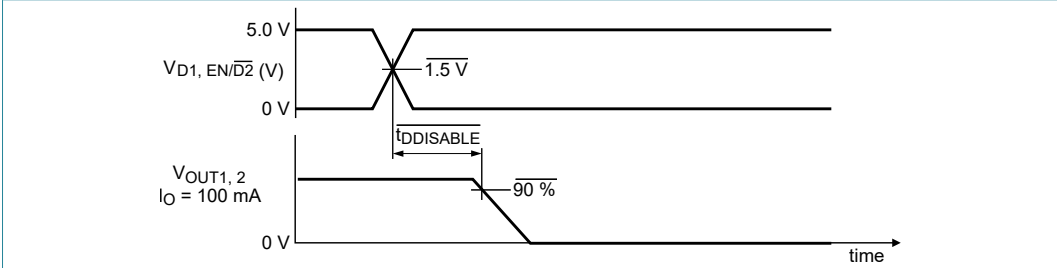

Figure 7. Disable delay time
- [8] Disable delay time measurement is defined in Figure 7.